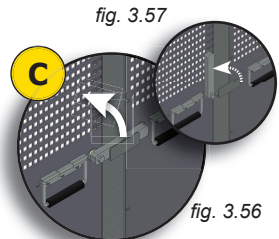
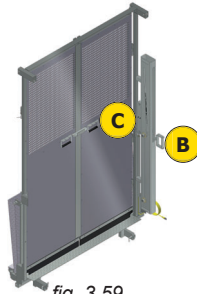

fig. 3.56
fig. 3.59
- 7- Lift the locking bar ("C" in fig. 3.56, p. 55 and in fig. 3.59) in a vertical position, as shown in fig. 3.57, p. 55, and push open the gates.